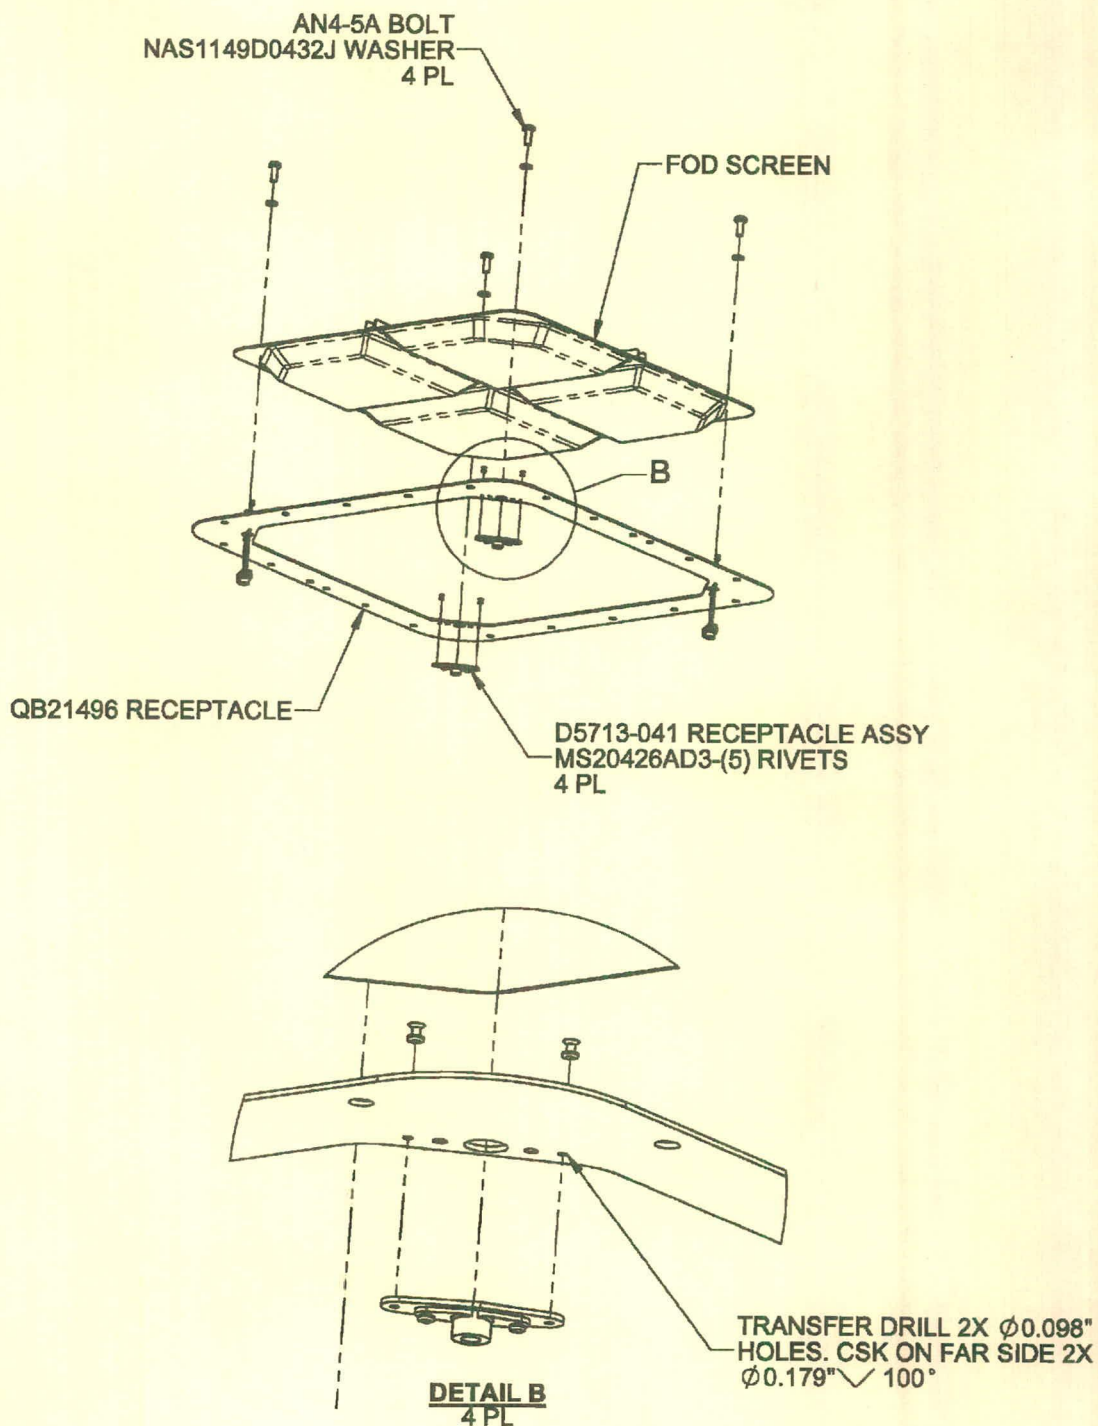

Figure 2 - DSI 9815-011 Replacement Receptacle Kit
- 2.1.5 Position the qty(4) D5713-041 Receptacle Assy in the location shown in Figure 2. Transfer drill 2x $\varnothing 0.098$ " holes with CSK $\varnothing 0.179$ " $\angle$ 100° on the top side from the D5713-041 Receptacle Assy to the QB21496 Receptacle. Touch up holes with Alodine 1200 per MIL-C-5541.
- 2.1.7 Install qty(4) D5713-041 Receptacle Assy with qty(2) MS20426AD3-(5) Rivets per Figure 2.
- 2.1.9 Reinstall the FOD screen on the QB21496 Receptacle using qty(4) AN4-5A bolts and qty(4) NAS1149D0432J Washers per Figure 2. Torque bolts to 50-70 in-lb (5.6-7.9 N-m).
2.3.2 Install the FOD Screen with qty(4) AN4-5A bolts and qty(4) NAS1149D0432J Washers per Figure 2.